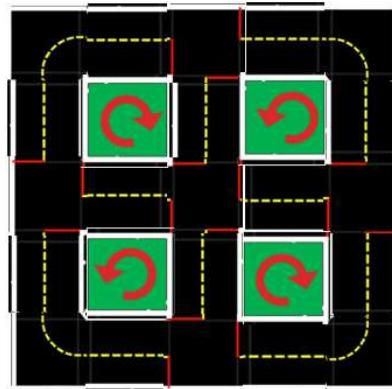

Figure 20.3. The Demo Map
Dream scenario intersection coordination: Duckiebots loop through the map as indicated in Figure 20.3. At the intersections the Duckiebots coordinate implicitly. Demo can run indefinitely without collision. Tunable: density of the traffic (fleet size) and the speed.
- The tiles to build the map in Figure 20.3